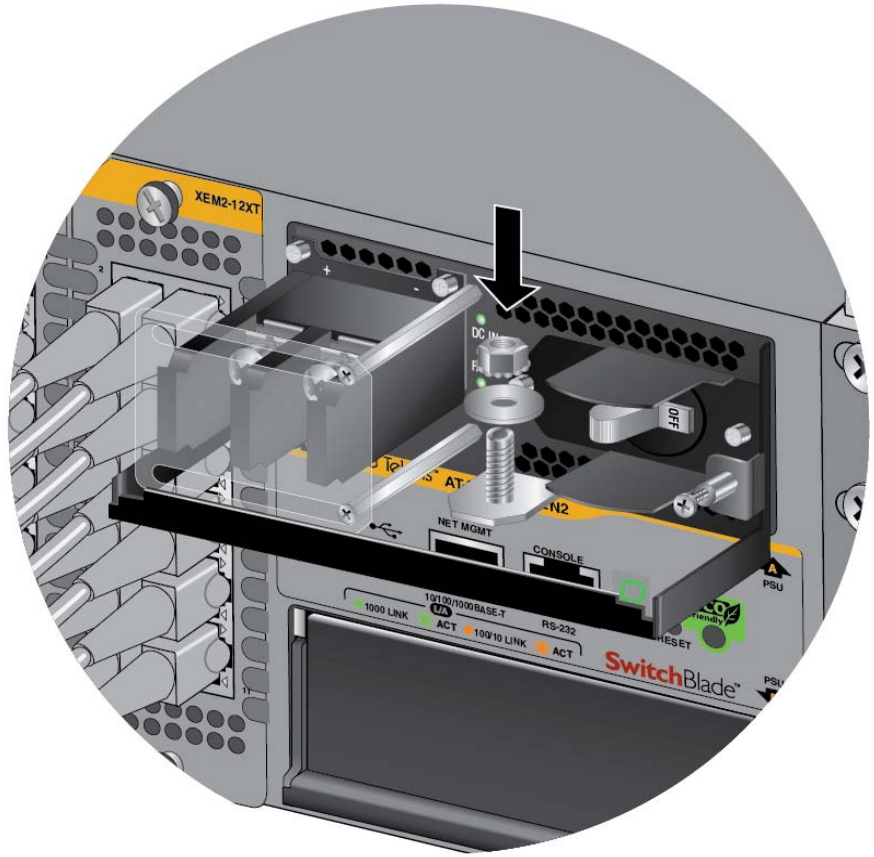

Figure 103. Reinstalling the Nut and Washer on the Grounding Post
10. Reinstall the nut and washer on the grounding post. Refer to Figure 103 on page 141.